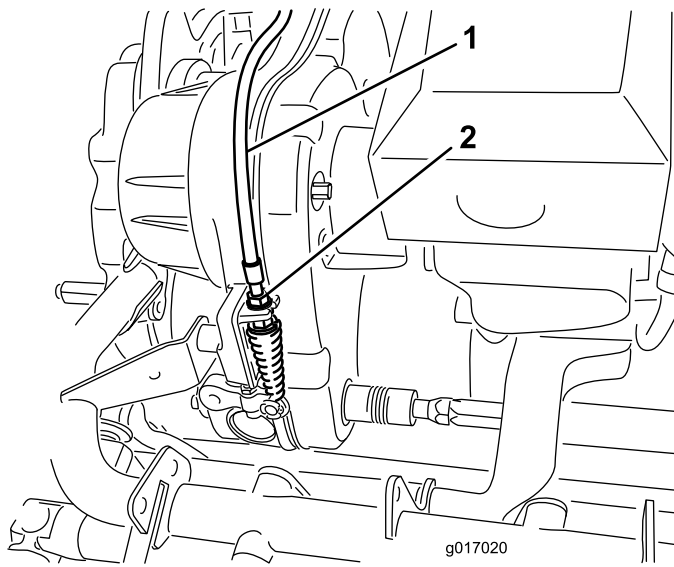

Figure 47
2. At the transmission bulkhead, adjust the reel control cable (Figure 47), to attain a spring length of 2.78-2.85 inches (70.6-72.4 mm).